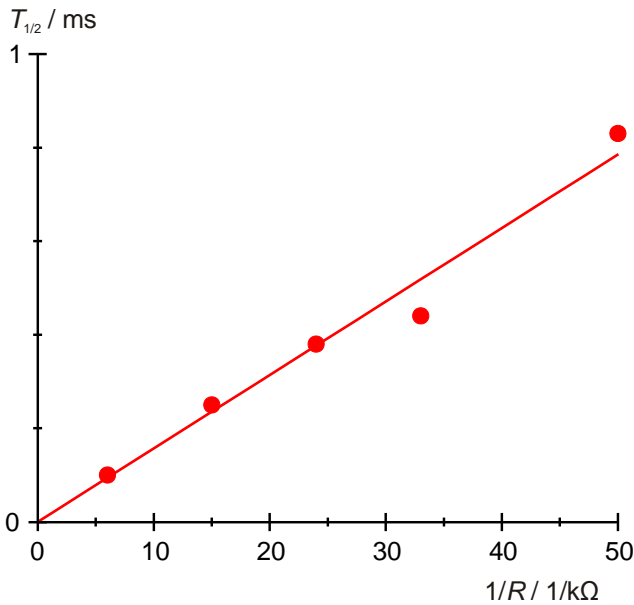

Fig. 5: Half-life  $T_{1/2}$  as a function of the inverse of resistance  $R$ .
- Plot the half-life periods  $T_{1/2}$  from Table 3 against the inverse of the ohmic resistance values  $R$  and fit a straight line through the origin (Fig. 5).
- To check equation (3), determine the inductance  $L$  from the measured gradient  $m_L$ .